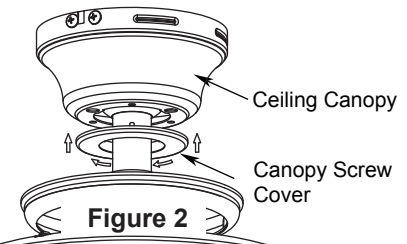

Figure 2
- 2. Remove the hanger ball portion from the downrod/hanger ball assembly by loosening the set screw in the hanger ball until the ball falls freely down the downrod. Remove the pin from the downrod, then remove the hanger ball. Retain the pin and hanger ball for reinstallation in Step 7. (Figure 2)
2. Alternating positions, remove three motor coupling screws from motor assembly and retain the screws for Step 4. (Figure 2)
The fan must be hung with at least 7' of clearance from floor to blades. (Figure 2)
- 1. Connect the green grounding lead from the hanger ball and the green grounding lead from the hanger bracket to the supply grounding conductor (this may be a bare wire or wire with green colored insulation). Securely connect wires with wire connectors supplied. (Figure 2)
- 2. Securely connect the white fan motor wire to the white supply (neutral) wire using wire connector supplied. Securely connect the black fan motor wire and blue wire to the black supply wire using wire connector supplied. (Figure 2)
2. Assemble the canopy screw cover, by twisting in a clockwise direction and up to the ceiling canopy. (Figure 2)
2. Install the remaining two screws removed in step 1 of page 10 (**How to Hang Your Ceiling Fan**) to secure the ceiling canopy to the hanger bracket. (Figure 2)
2. Attach assembled blade holders to the motor hub using the provided screws with lock washers in HARDWARE bag. Make sure the screws securing the blade holders to the motor hub are tight and that the blade holders are properly seated. (Figure 2)
- 2. Securely attach the 9-pin switch cup connector to the wiring harness socket within the adapter assembly. (Figure 2)
- 2. Install the fan fob and pull chain coupler. (Figure 2)